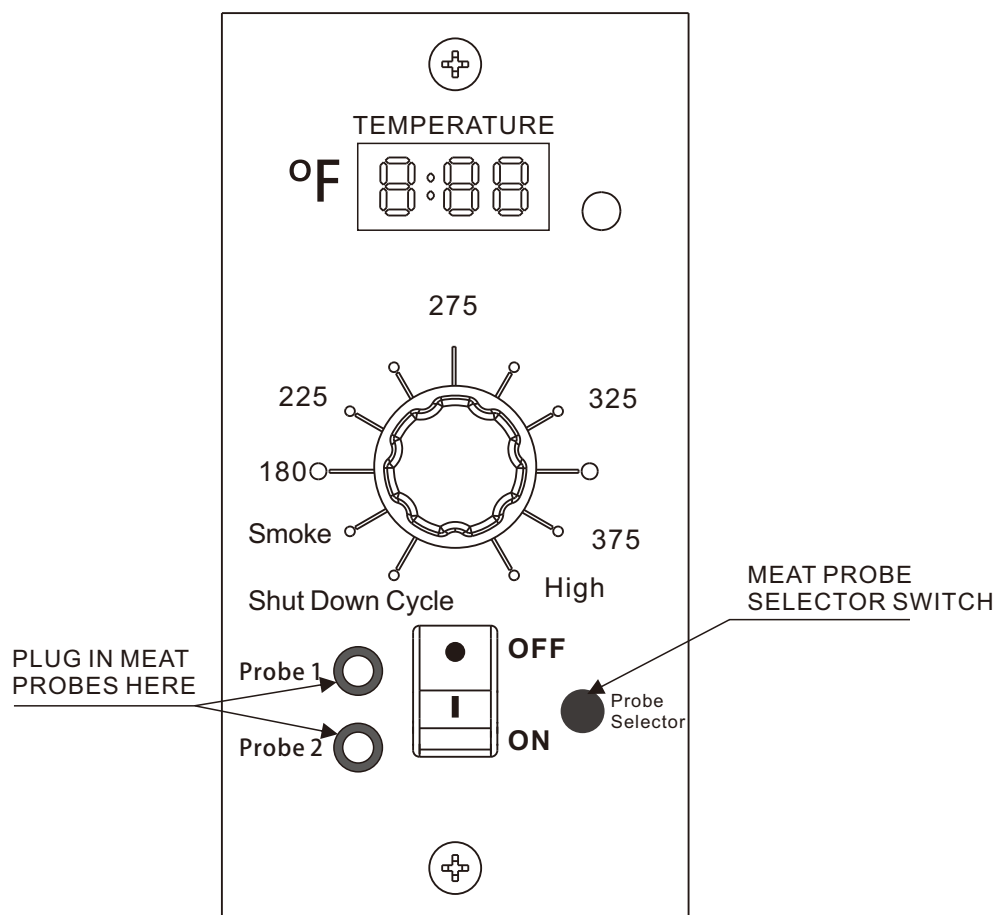

Figure 4-1
1. Insert either one or two meat probes into the plug-in receptacles located on the lower left corner of the controller as shown in Figure 4-1.
3. To read the temperature of the meat probe press the meat probe selector switch locate in the lower right corner of the control as shown in Figure 4-1. The control will revert back to the barbeque temperature after 5 seconds.